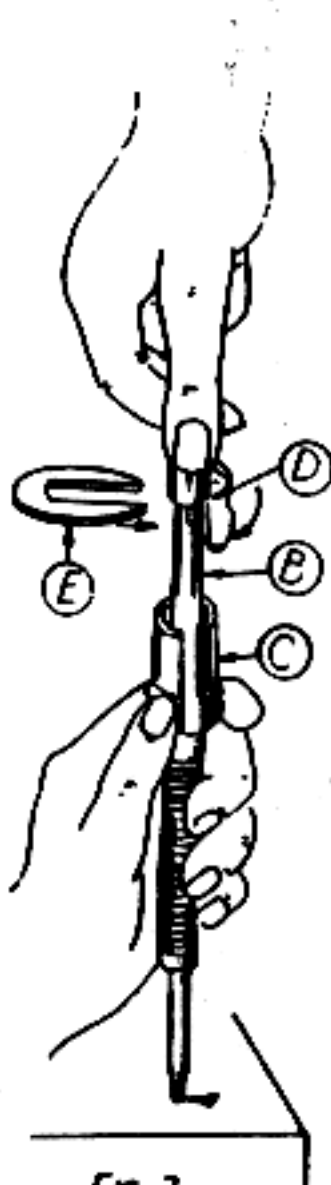

FIG. 2
- 30 GRASP THE SLEEVE (C) AND PULL DOWN, AS IN FIG. 2. PLACE THE COCKING PIECE (D) OVER THE END OF THE STRIKER (E) AS SHOWN, AND TURN CLOCKWISE. PLACE THE "C" WASHER (C) BETWEEN THE COCKING PIECE (D) AND THE SLEEVE (C).
- 31 SCREW THE ASSEMBLY (F) INTO THE BOLT (G).
- 32 WITH THE FIRING PIN IN FIRING POSITION, SLIDE STRIKER PROTRUSION GAGE (K) OVER THE STRIKER (L). THE .050" SHOULD NOT PASS OVER THE STRIKER (L). IF IT CLEARS, THE STRIKER IS NOT LONG ENOUGH; THEREFORE MUST BE REPLACED. THE .075" SHOULD CLEAR THE STRIKER (L); IF IT DOES NOT, THE STRIKER IS TOO LONG AND THEREFORE MUST BE SHORTENED TO PREVENT PUNCTURED PRIMER CUPS.
34 WHEN BOLT (B) CLOSSES, IT WILL AUTOMATICALLY COCK, AS SHOWN BY THE POSITION OF THE COCKING PIECE (C), IN FIG. 2. PULL TRIGGER (D) TO FIRE.